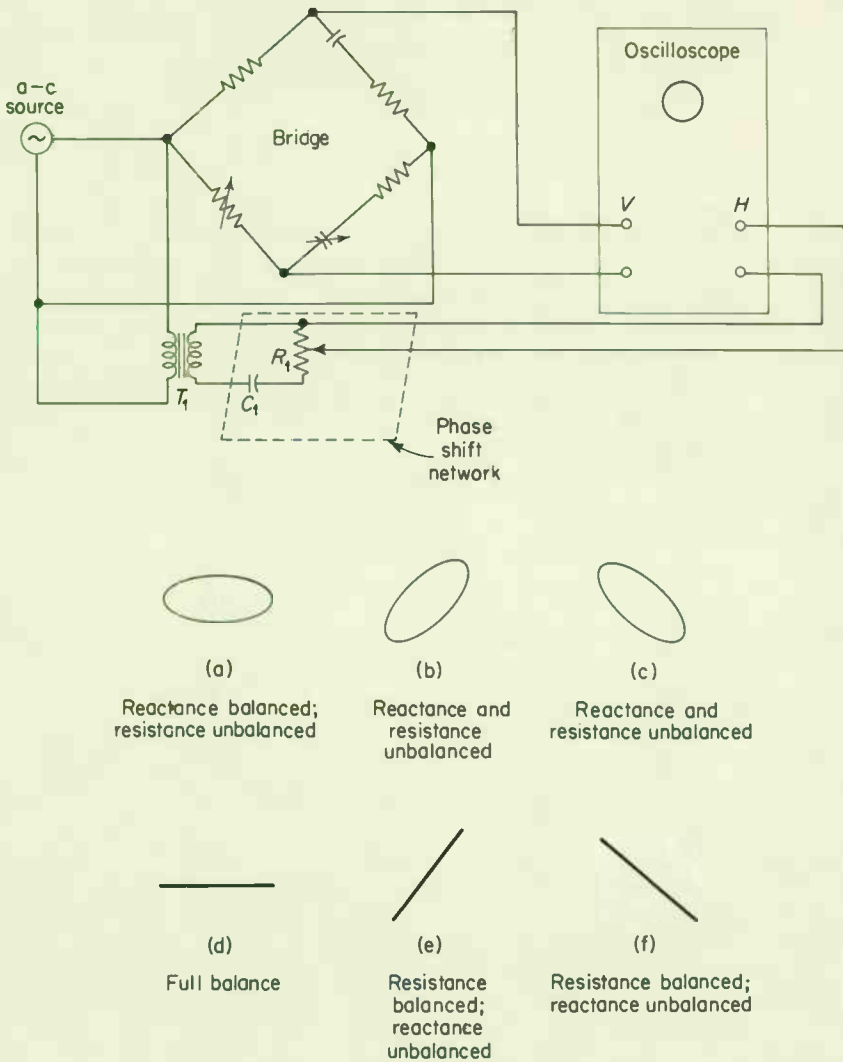

Fig. 9-9. Using an oscilloscope as the null detector of an a-c bridge.
As shown in Fig. 9-9, the source voltage is applied to the bridge input and to the oscilloscope horizontal channel through a phase-shift network. The bridge output is applied to the oscilloscope vertical channel.
1. Connect the equipment as shown in Fig. 9-9.